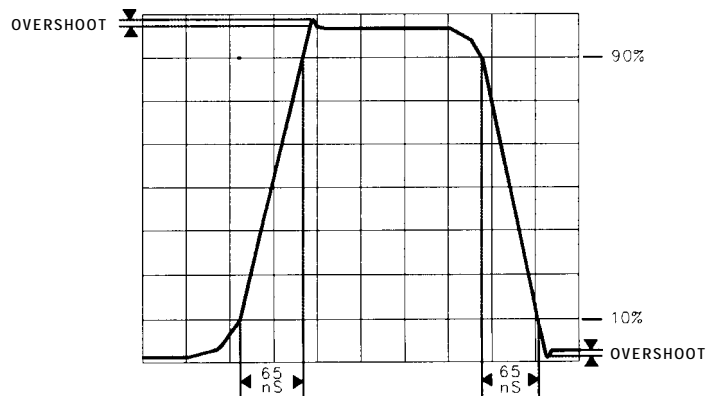

Figure 3-2 1.
18. Use the oscilloscope $\Delta t \Delta V$ markers to measure the risetime, falltime, and percent overshoot of the composite X deflection waveform. Rise and fall times should both be less than approximately 65 ns between the 10% and 90% points on the waveform. Overshoot should be less than 3% (approximately 0.25 divisions). See Figure 3-2 1.